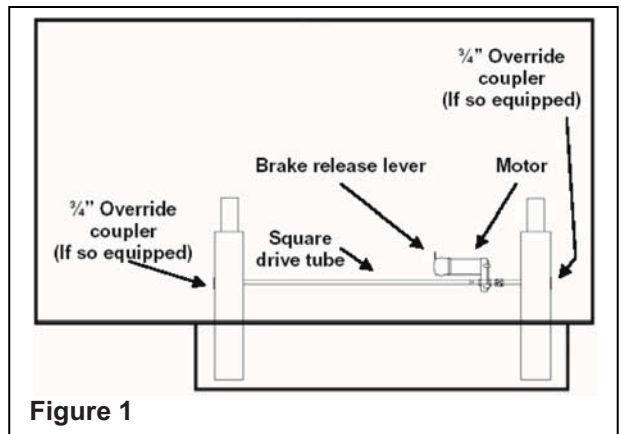
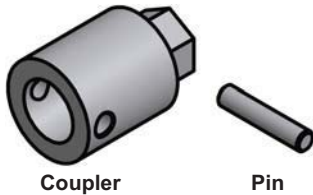

Figure 1
Figure 3
1. Locate the slide out motor. The motor will be attached to the base of the system or in between the slide out arms. Refer to **FIGURE 1**.
1. Locate the slide out motor. The motor will be attached to the base of the system or in between the slide out arms. Refer to **FIGURE 1, PAGE 1**.
3. Locate the 3/4" override coupler on the slide out system. See **FIGURE 1** on **PAGE 1** for possible coupler locations. If the slide out system does not have an override coupler, one may be purchased through Power Gear. See **FIGURE 3**.
Override coupler shown on secondary output shaft of motor assy. Location of override coupler can vary, as shown in **FIGURE 1** on **PAGE 1**